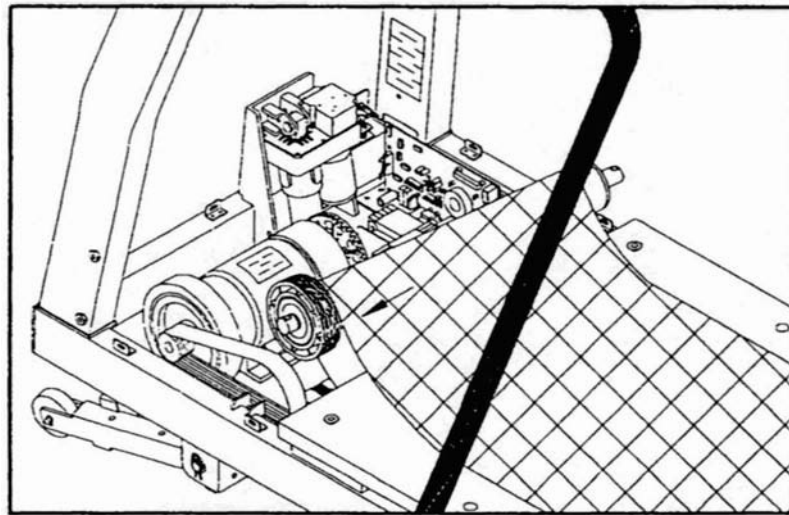

Fig.5
5. Remove the front roller from its bracket and slip from the running belt.(see Fig.5)